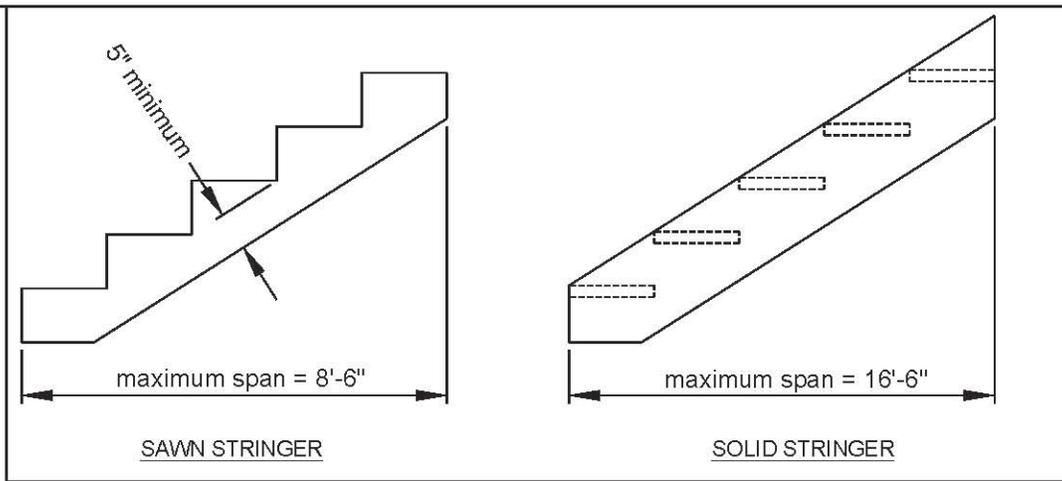

FIGURE 34: STAIR STRINGER REQUIREMENTS
All stringers shall not exceed the horizontal span length shown in FIGURE 34. If the stringer span exceeds the maximum limit, a 4x4 post may be provided to support the stringer and shorten its span length. The 4x4 post shall be notched and bolted to the stringer with (2) 1/2" diameter through-bolts with washers per FIGURE 10, Option 1. The post shall be centered on a 12" diameter or 10" square, 4" thick footing. The footing shall bear 24" below grade, and the post shall be attached to the footing per FIGURE 12. An intermediate landing may also be provided to shorten the stringer span; see STAIR LANDINGS.